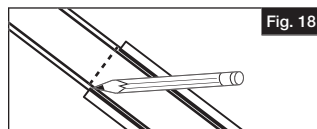

Fig. 18
- Once length is determined, mark brace in center with pencil line (Fig. 18).